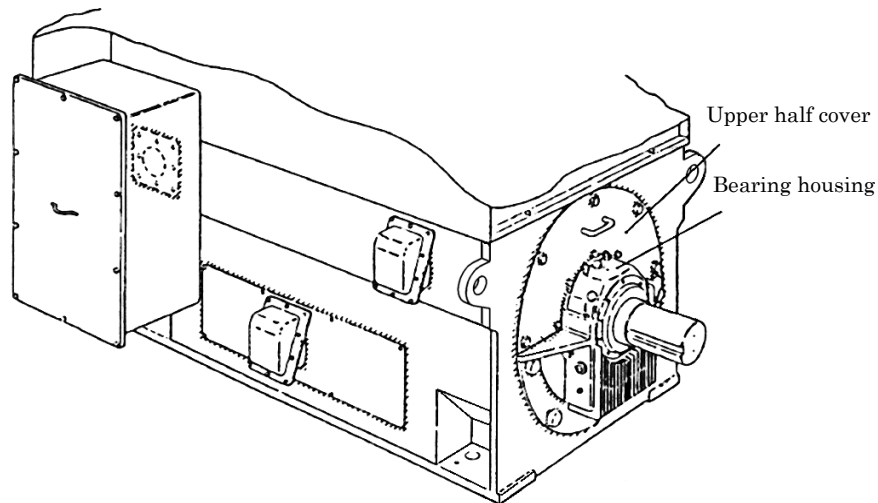

Fig. 13-11 Sealant coating area
- For an outdoor type motor, coat sealant to the hatching part as shown in Fig. 13-11.